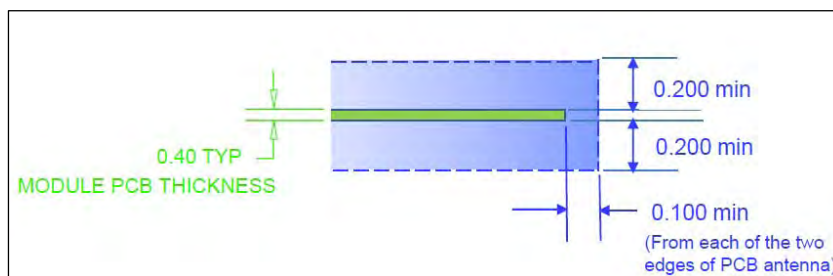

Figure 6-5 Recommended clearance above and below the PCB trace antenna
- Recommendation is to keep plastic enclosure clearance of 1cm from top and bottom of the DFZM-E82xx onboard antenna keep-out area, if possible. 5-mm (0.2 in) clearance shall be the minimum as shown in Figure 6-5.